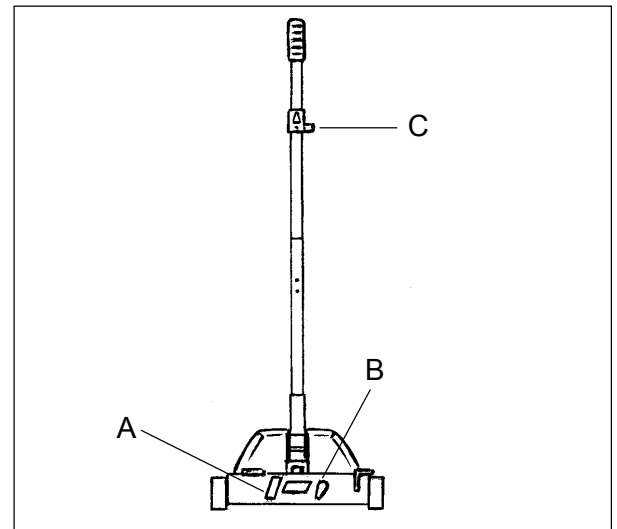

Figure 2
Position the bag coupling into the left bag support (A) and turn the bag knob (B) counterclockwise to secure bag to base. Attach bag spring to bag hook (C) located on the rear of the top cord hook. See figure 2.